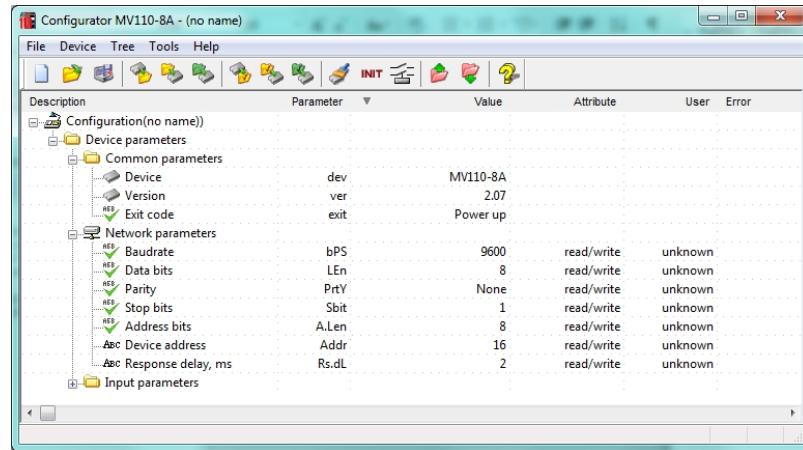

Fig. 7.2 Main window of M110 Configurator
- now the saved network parameters of the module can be read out (see Fig. 7.2)